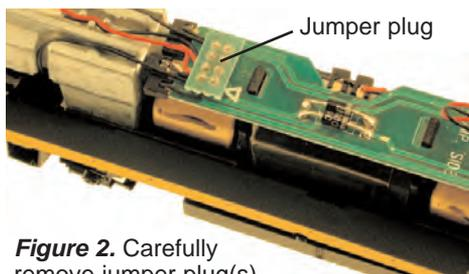

Figure 2. Carefully remove jumper plug(s)
2. Remove the jumper plug/s from the locomotive's DCC-ready socket. *Figure 2* The jumper plug/s allow the loco to operate on a standard DC track or in analog mode on a DCC track.